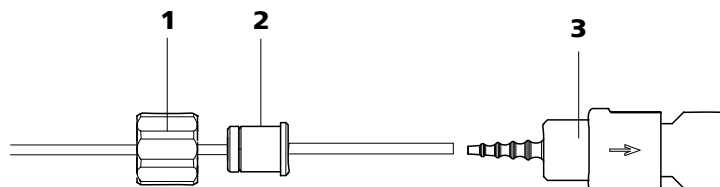

Figure 29 Install pump tubing connection with filter
- **Case A:** a 6.2744.180 pump tubing connection **with filter** (see figure 29, page 52) or